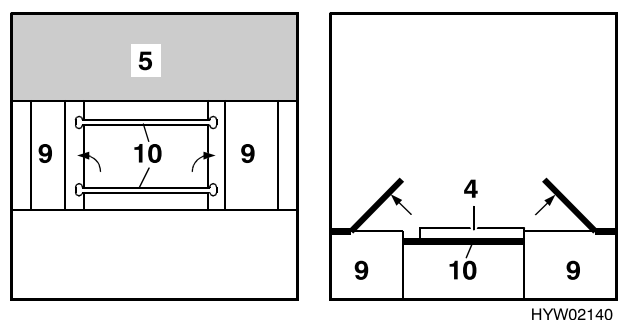

Fig. 91 During conversion
- Lift up the bedding box lids and insert the two bed rods (Fig. 91,10) in a transverse position in the pertinent grooves between both bedding boxes. Close the bedding box lids.
- Place the table-top (Fig. 91,4) on the two bed rods.